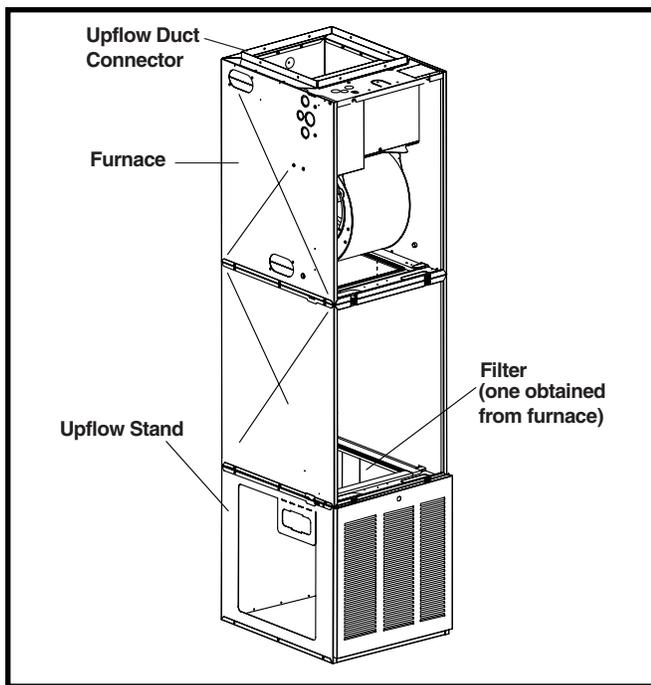

Figure 16. Over-the-Floor Return Air System with Upflow Stand
- Use optional upflow stand (P/N 904620A) with filters or construct a suitably braced mounting platform in closet. See Figure 16 \(page 13\).
- Use optional upflow duct connector or field supplied connector to attach furnace to overhead supply duct. See Figure 16.
6. Use optional upflow duct connector or field supplied connector to attach furnace to overhead supply duct. See Figure 16.